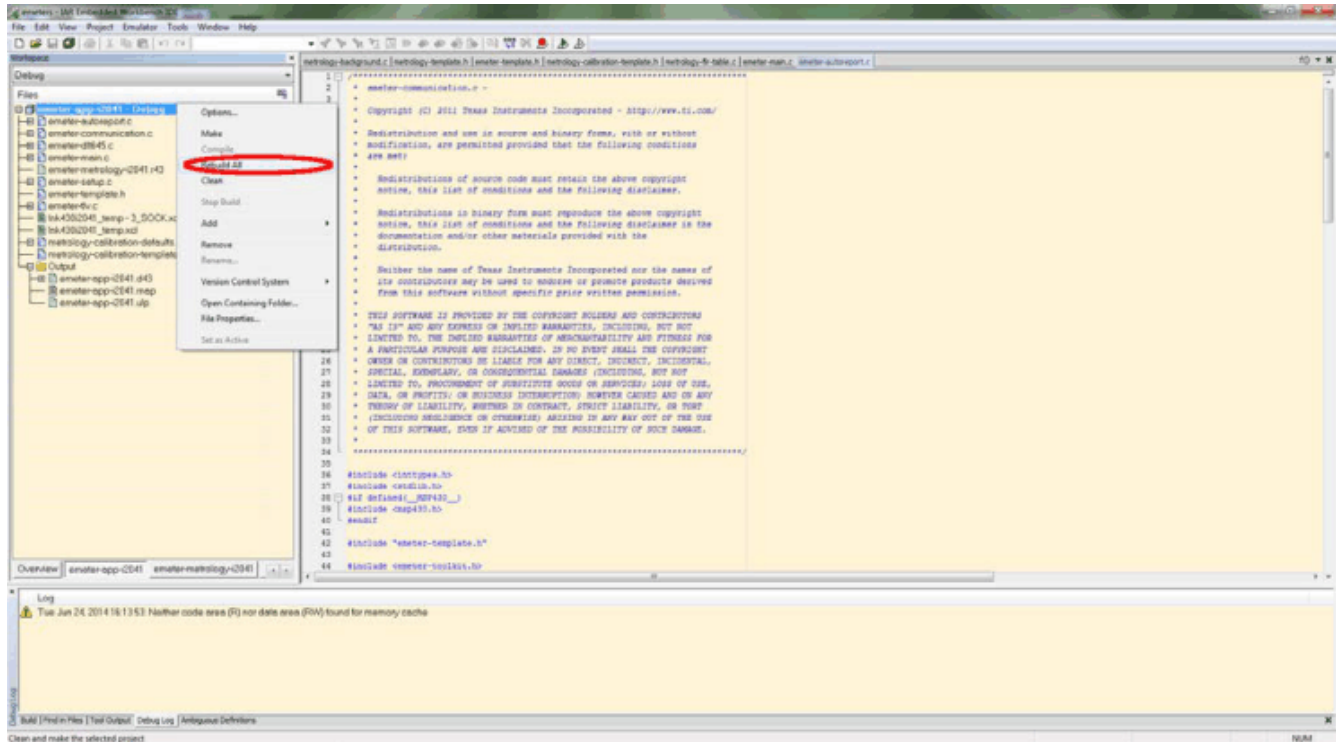

Figure 9-6. Compiling the Application
- Rebuild the project by right clicking on the project and selecting Rebuild All from the pop-up menu (see Figure 9-6). Three warnings are reported during rebuilding (see Figure 9-6), it is safe to ignore the three warnings. To open the project workspace, modify the code, compile, and download the code; IAR Embedded Workbench® 5.5 must be installed with a valid license. If a valid license is not available, the object code can still be downloaded. For downloading procedures, see Section 9.3.